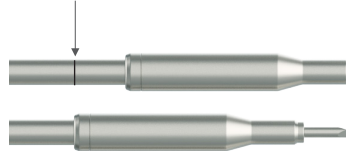

Figure 9b
- The Self-Guided Straight Awl and Self-Guided Straight Drill have spring-loaded sleeves that interface with the Screw hole pockets at a 40° angle, creating centered pilot holes (Figure 9b)
- Guide the attached Screw into the pilot hole and thread until fully seated. Ensure Screw is concentrically centered in Screw Pocket and aligned correctly (Figure 9b).